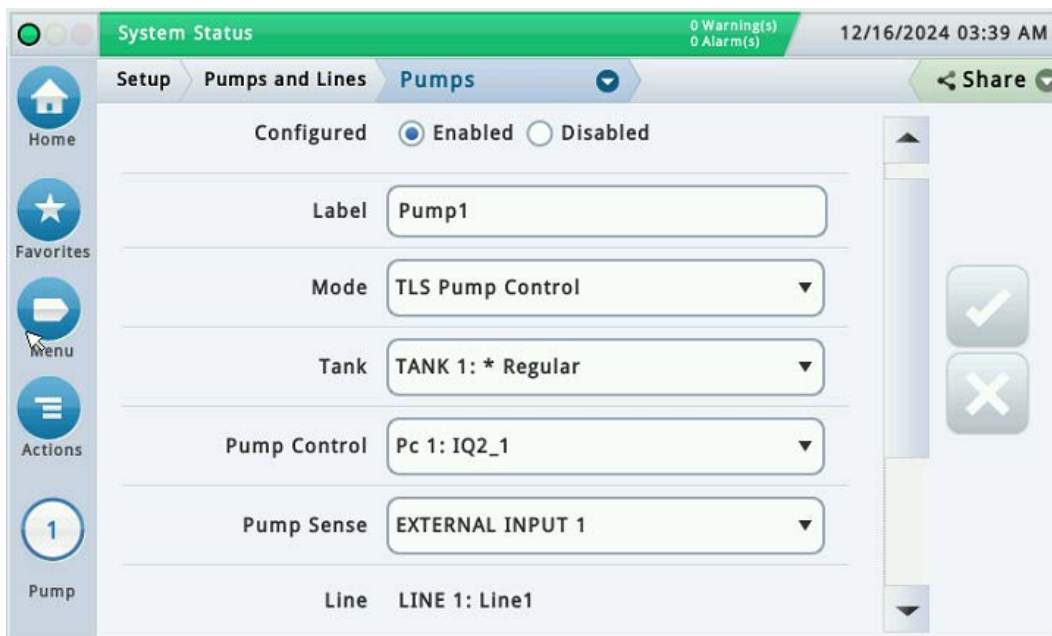

Figure 26. Pumps Setup Screen
1. Navigate to the **Setup > Pumps and Lines > Pumps** screen. This screen includes both pump controllers and relays in the pump control field (see Figure 26).